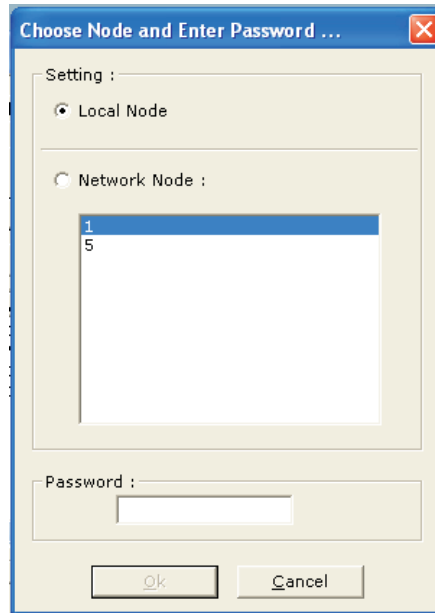

Figure 4-16. Select Node and Enter Password - Get Sensitivity Levels
1. Select **Tools>Get Sensitivity Levels**. The selection dialog box (Figure 4-16) is displayed.